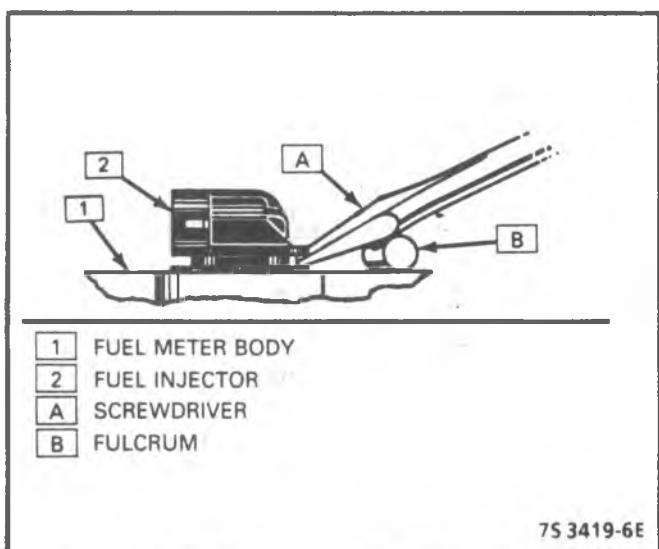

Figure 4-35 - Removing TBI 700 Fuel Injector
3. Using a fulcrum, place a screwdriver blade under ridge opposite connector end and carefully pry injector out (see Figure 4-35).